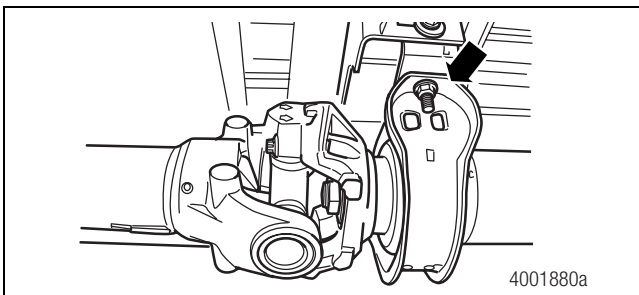

Figure 3.6
2. Inspect the center bearing bracket bolts for looseness. Figure 3.6.